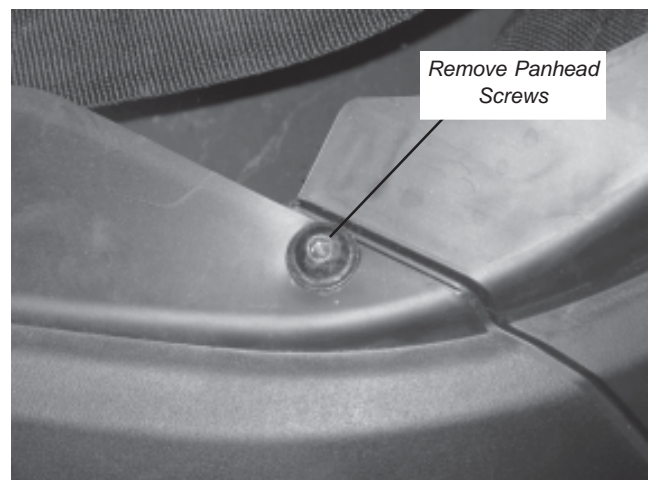

Figure 3
3. Remove two Allen panhead screws on top side of grill using a 5mm Allen wrench, as shown in Figure 3.